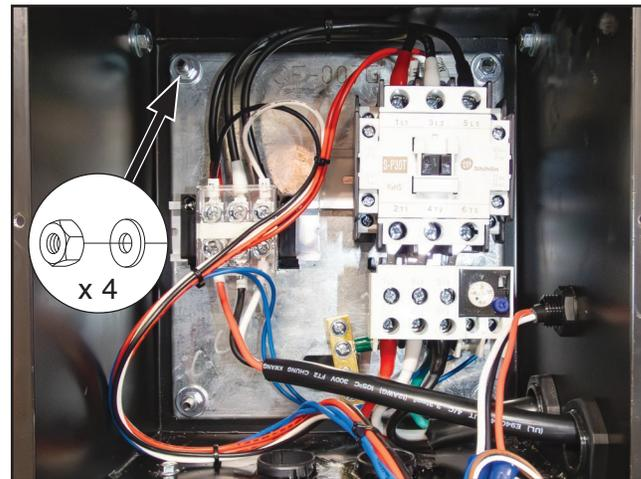

Figure 11. Location of fasteners securing electrical mounting board.
- Remove (4) nuts and washers securing electrical mounting board (see **Figure 11**) and set aside, then remove board from control box.